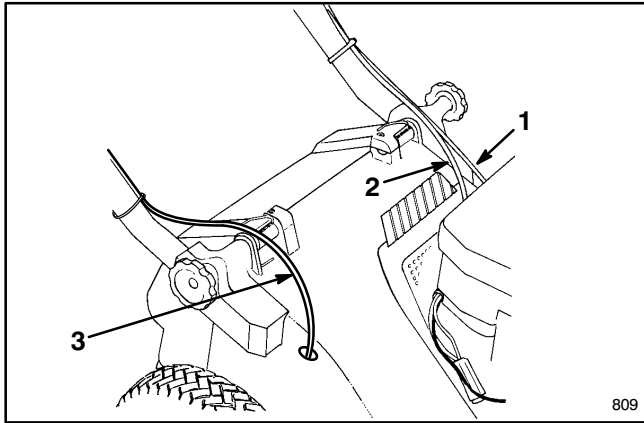

Figure 2
3. Slide handle ends into holes in mounting brackets until handle ends are completely seated in brackets (Fig. 1). Make sure cables rest on top of mounting brackets (Fig. 2).
4. Rotate handle and brackets rearward until brackets fit securely into housing pockets (Fig. 2).